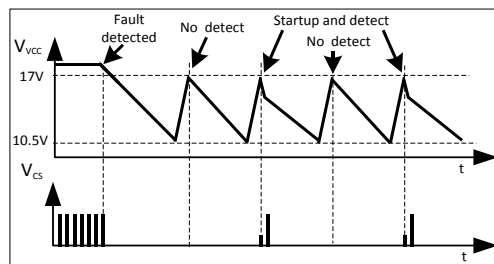

Figure 30 Odd skip auto restart waveform
Odd skip non switch auto restart mode is similar to odd skip auto restart mode except the start up switching pulses are also suppressed at the even number of the restart cycle. The detection of fault still remains at the even number of the restart cycle. When the fault is removed, the IC will resume to normal operation at the even number of the restart cycle (Figure 30).
VCC OVP (1) condition is when V_{VCC} voltage is $> 20.5\text{ V}$, V_{FBB} voltage is $> 4.5\text{ V}$ and during soft start period, the IC enters into odd skip Auto Restart Mode. This condition likely happens during start up at open loop fault (Figure 30).
Vcc OVP (2) condition is when V_{VCC} voltage is $> 25.5\text{ V}$, the IC enters into odd skip Auto Restart Mode (Figure 30).
In case of Overload or Open Loop, the V_{FBB} voltage exceeds 4.5 V which will be observed by comparator C4. Then the built-in blanking time counter starts to count. When it reaches 20 ms, the extended blanking time counter CT1 is activated. The switch S2 is turned on and the voltage at the BBA pin will be discharged through 500 Ω resistor. When it drops to 0.9 V, the switch S2 is turned off and the Switch S1 is turned on. Then a constant current source I_{chg_EB} will start to charge up BBA pin. When the voltage hits 4.5 V which is monitored by comparator C11, the switch S1 is turned off and the count will increase by 1. Then the switch S2 will turn on again and the voltage will drop to 0.9 V and rise to 4.5 V again. The count will then increase by 1 again. When the total count reaches 256, the counter CT1 will stop and it will release a high output signal. When both the input signals at AND gate G5 is high, the odd skip Auto Restart Mode is activated after the 30 μs spike blanking time (Figure 30).